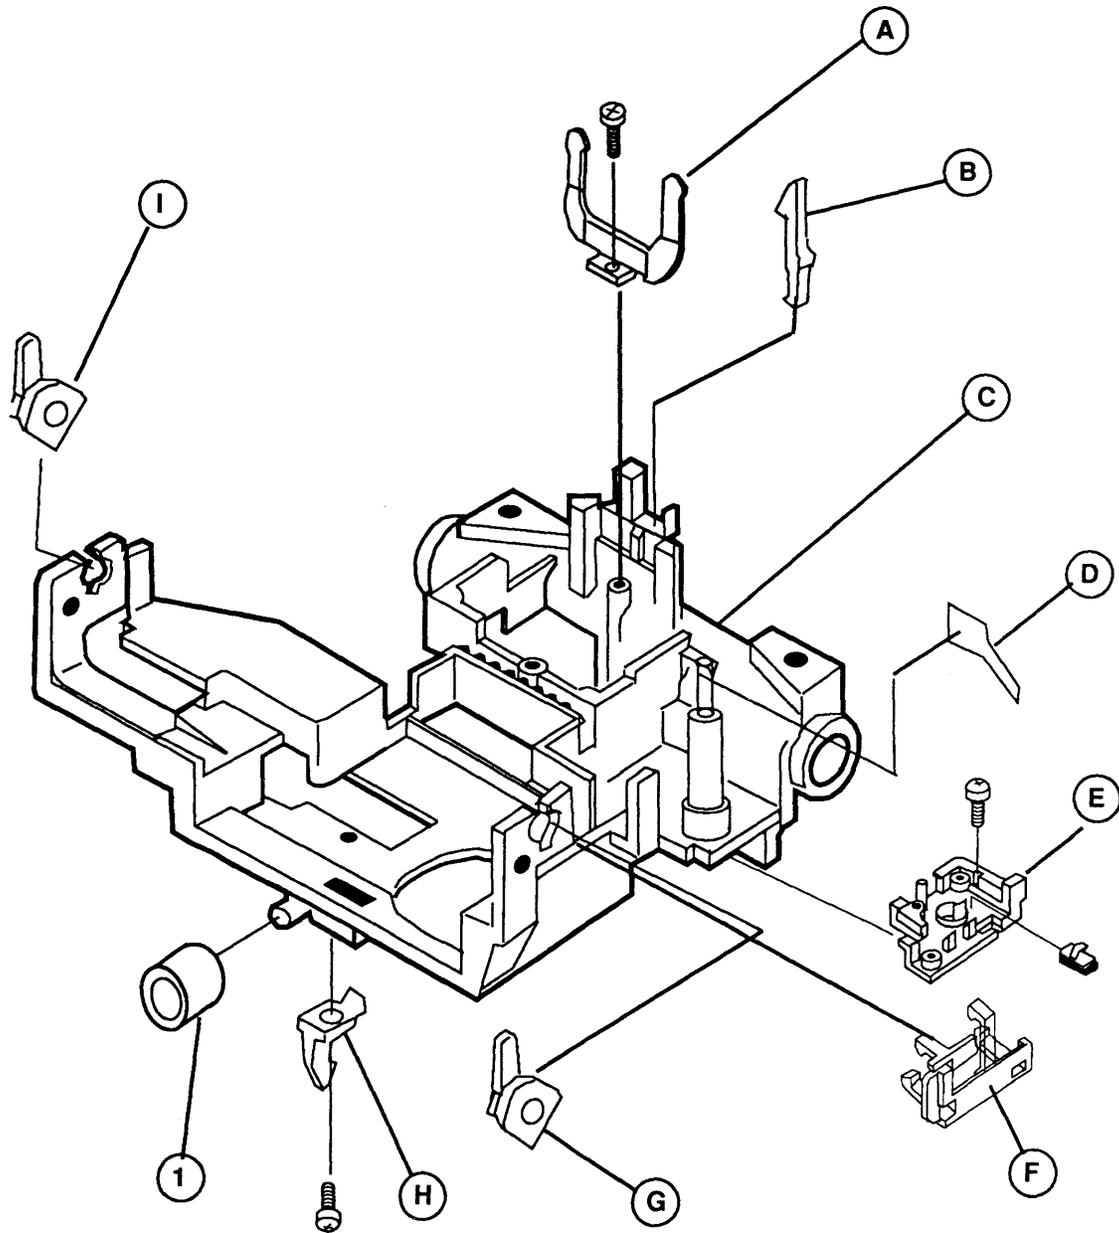

Figure 13
□ **CARRIER PARTS (Figure 13)**